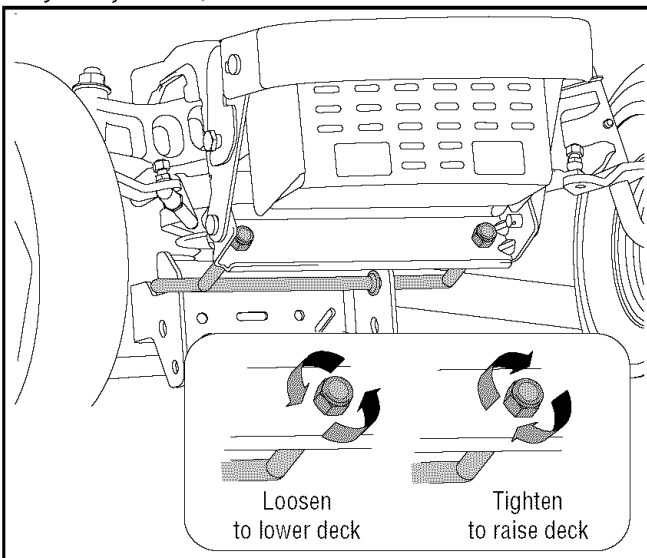

Figure 10
- Loosen the two jam nuts on the rear side of the deck stabilizer bracket. See Figure 10
- Locate the two lock nuts on the opposite side of the stabilizer bracket. See Figure 10. Tighten the lock nuts to raise the front of the deck; loosen the lock nuts to lower the front of the deck.